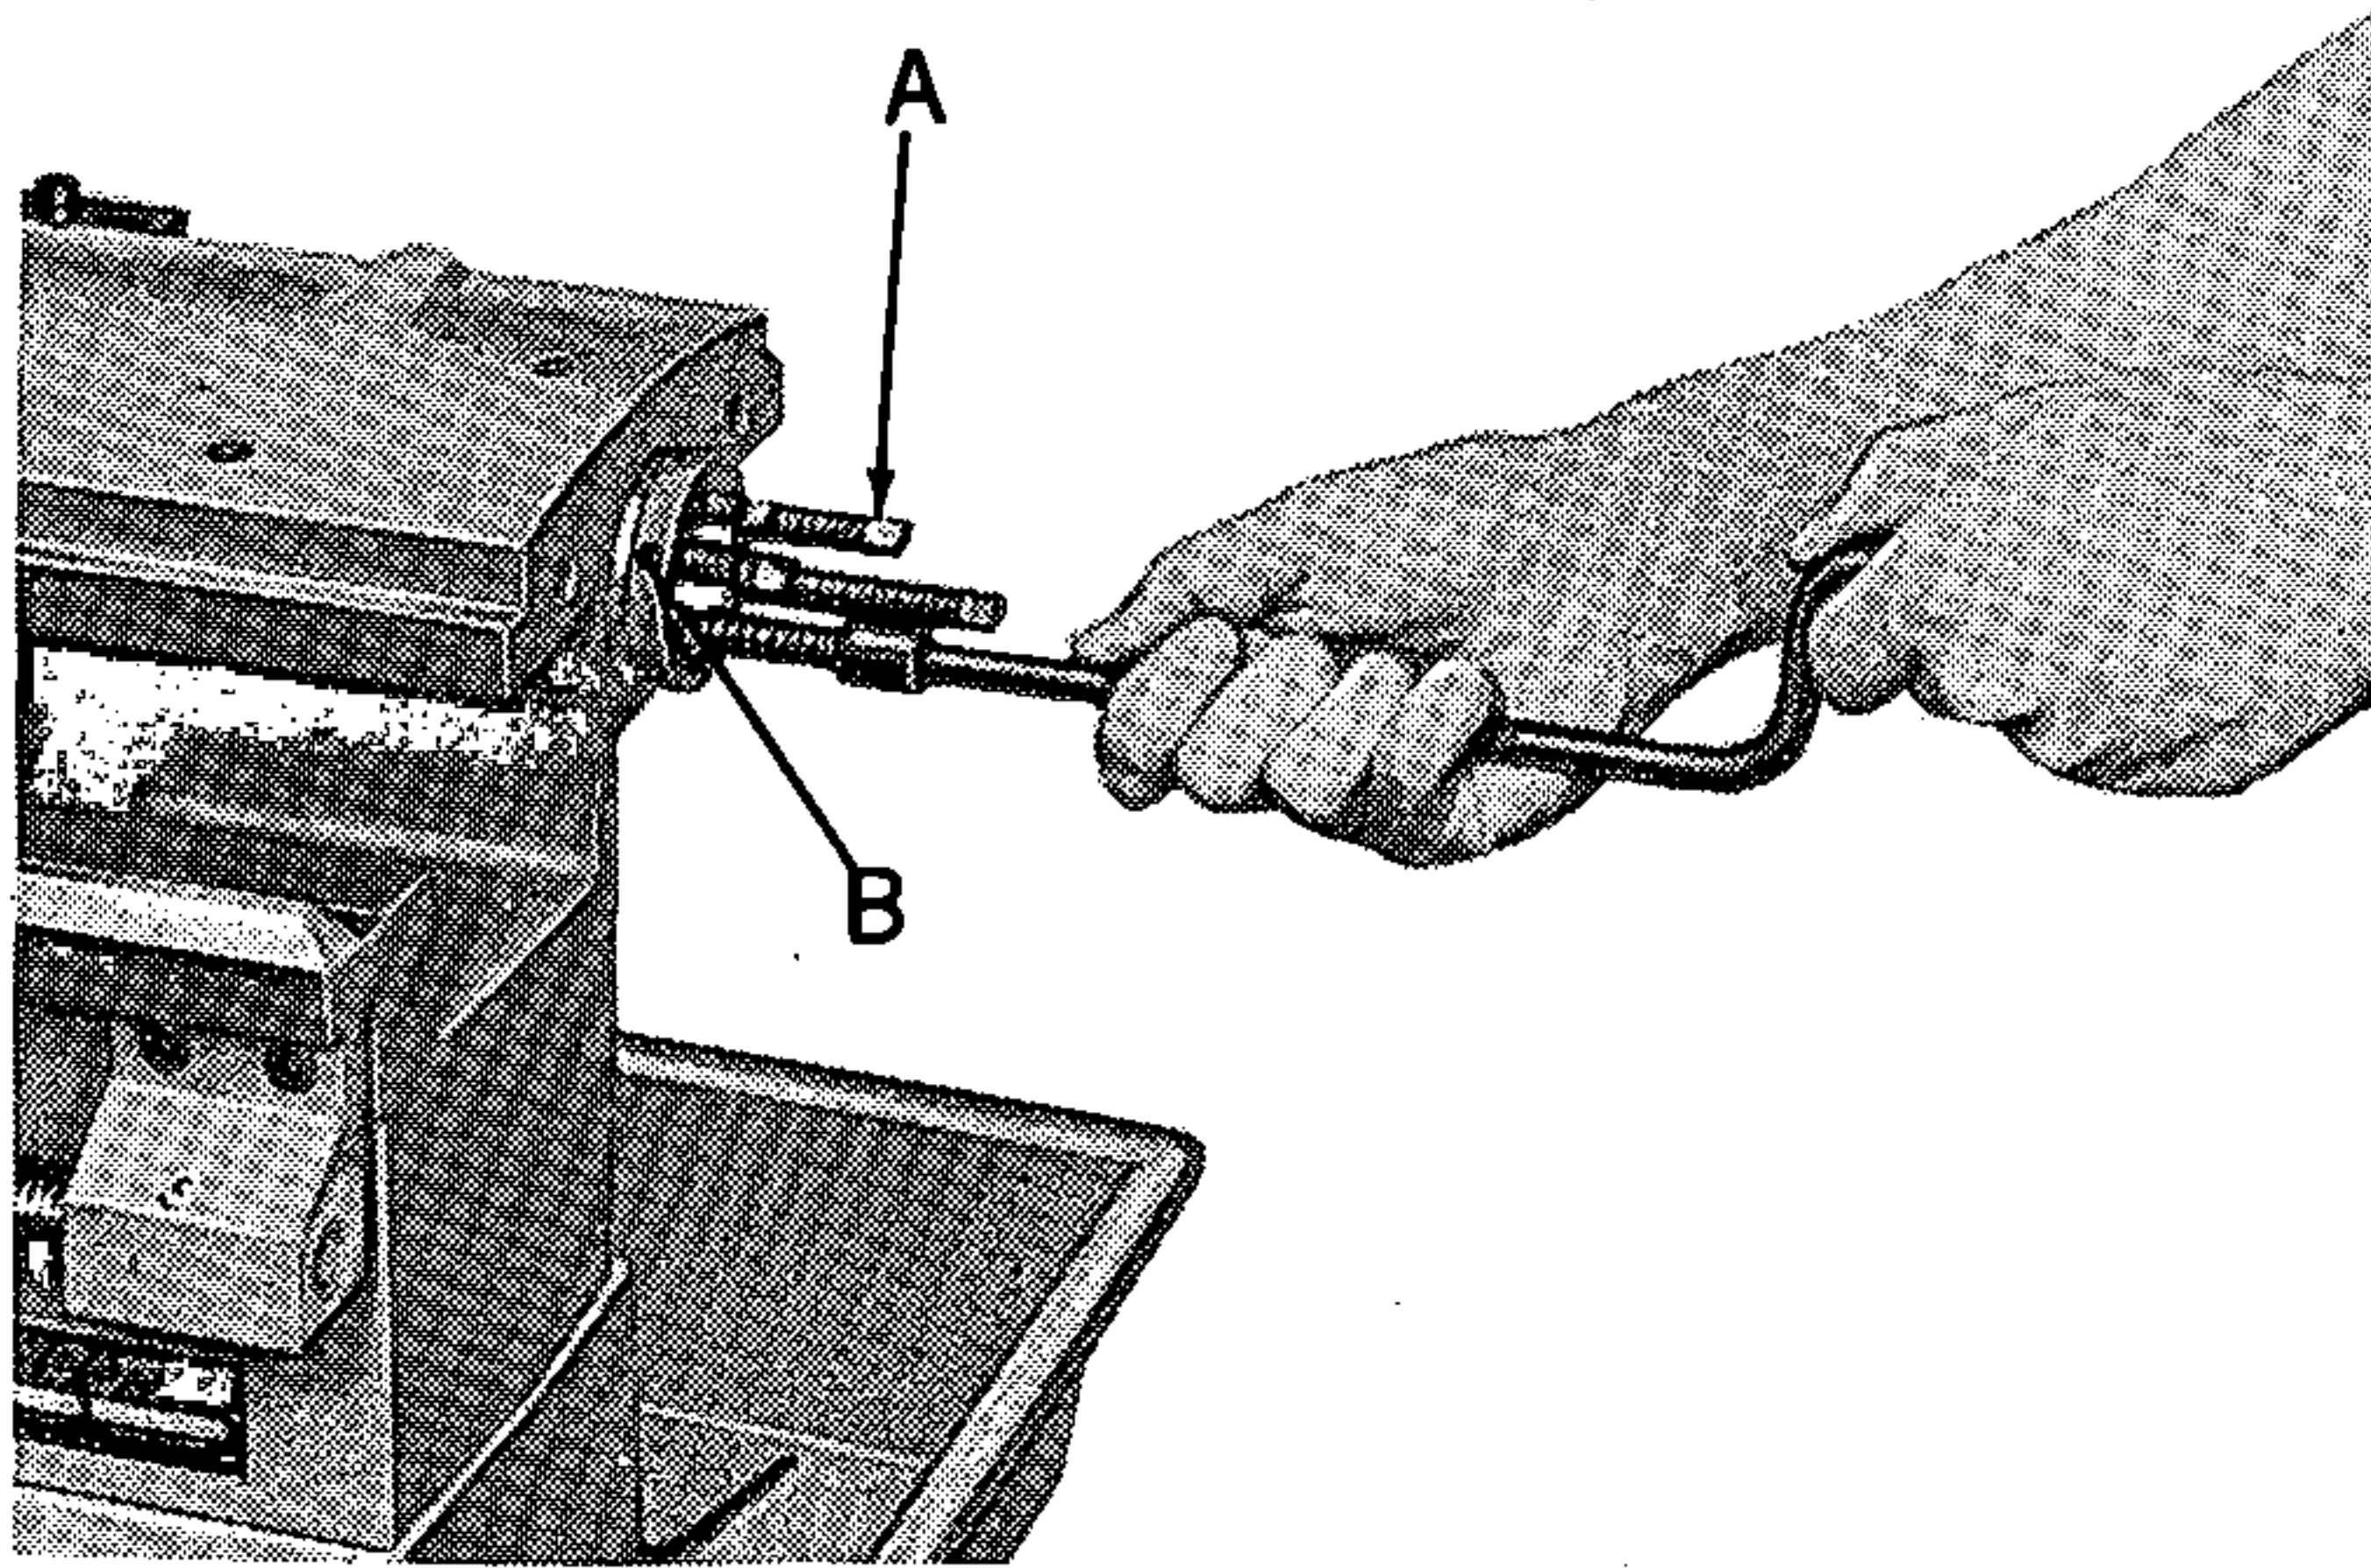

Figure 5
1. Six adjustable stop screws (A, Fig. 5) – one for each of the turret stations, are located at rear of turret slide.
2. To adjust, loosen lock screws (B) in ring and turn screws to position desired – use speed wrench, see figure 5. Tighten lock screws in ring.